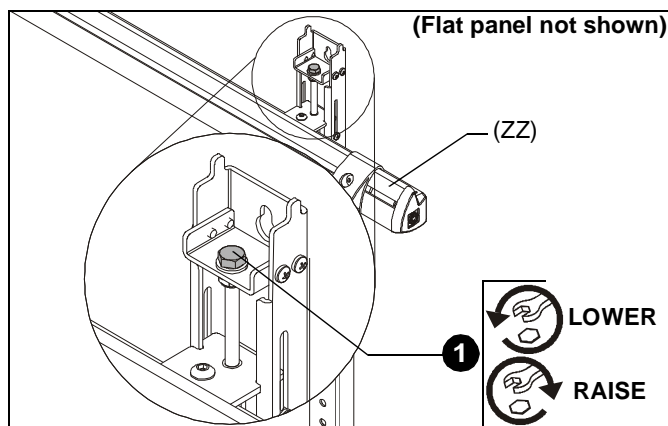

Figure 11
- The wall assembly (ZZ) can be adjusted or leveled by turning the hex head bolt in the wall brackets. (See Figure 11)